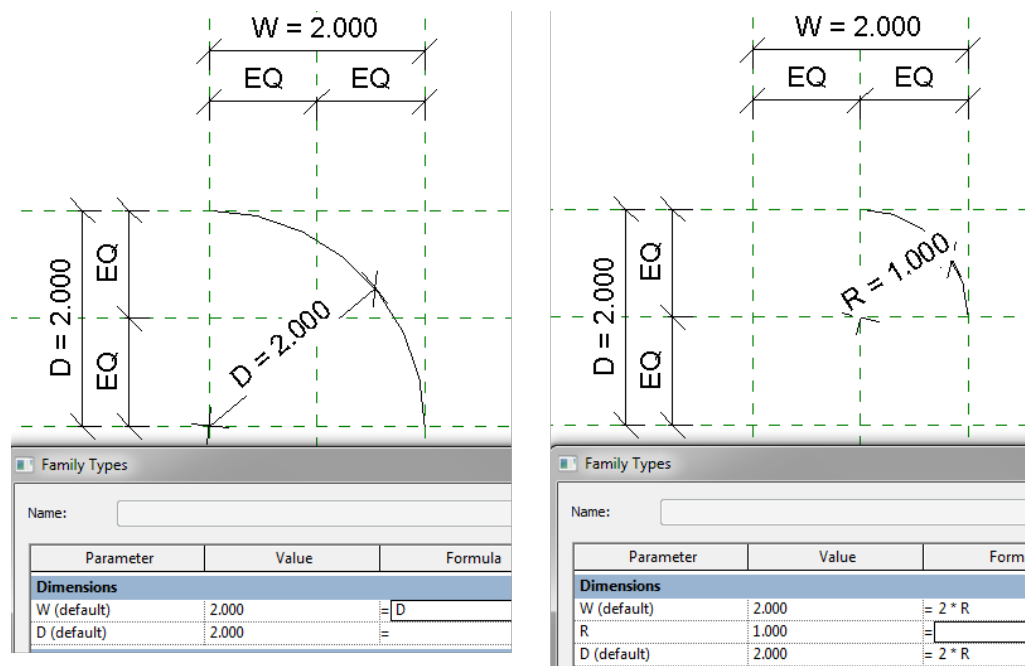

Figure 14—Two approaches to applying a parameter to the radius dimension
9. Select the radius dimension and label it with the existing D parameter (see the left side of Figure 14).
12. In Family Types, add a formula to both W and D: **2 * R** (see the right side of Figure 14).